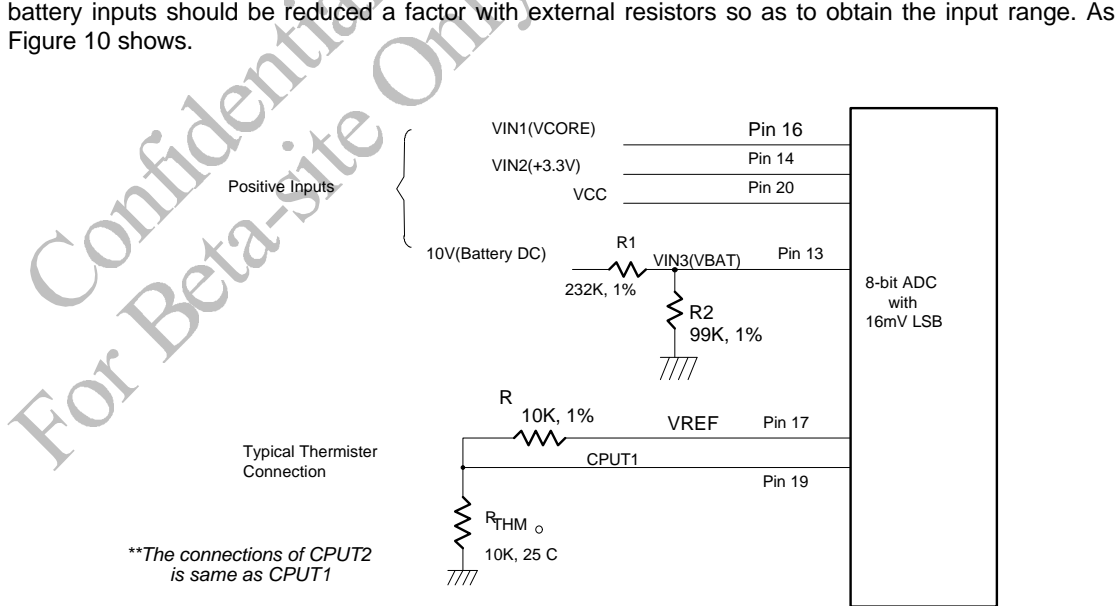

Figure. 10.
The maximum input voltage of the analog pin is 4.096V because the 8-bit ADC has a 16mV LSB. Really, the application of the PC monitoring would most often be connected to power suppliers. The CPU V-core voltage and +3.3V voltage can directly connected to these analog inputs. The 5VSB and battery inputs should be reduced a factor with external resistors so as to obtain the input range. As Figure 10 shows.
The W83L784R can connect three thermistors to measure three different environment temperature. The specification of thermistor should be considered to (1) β value is 3435K, (2) resistor value is 10K ohms at 25°C. In the Figure 10, the thermistor is connected by a serial resistor with 10K Ohms, then connect to VREF (pin 17).